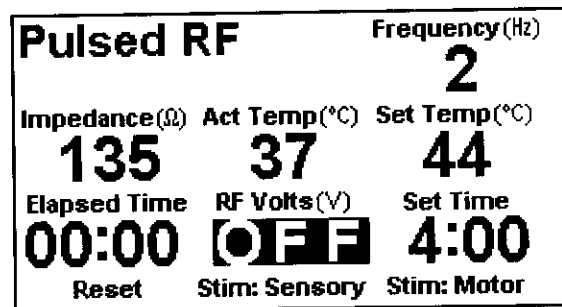

Figure 11: Pulsed RF Mode Display
Set Temp will default to 44° C; Set Time will default to 4 minutes (display will show 4:00); Frequency will display 2 Hz, RF Volts (V) will display 0.0. In this mode (Figure 11), the generator delivers pulsed RF energy to automatically reach and maintain the device temperature according to the selected Set Temp.